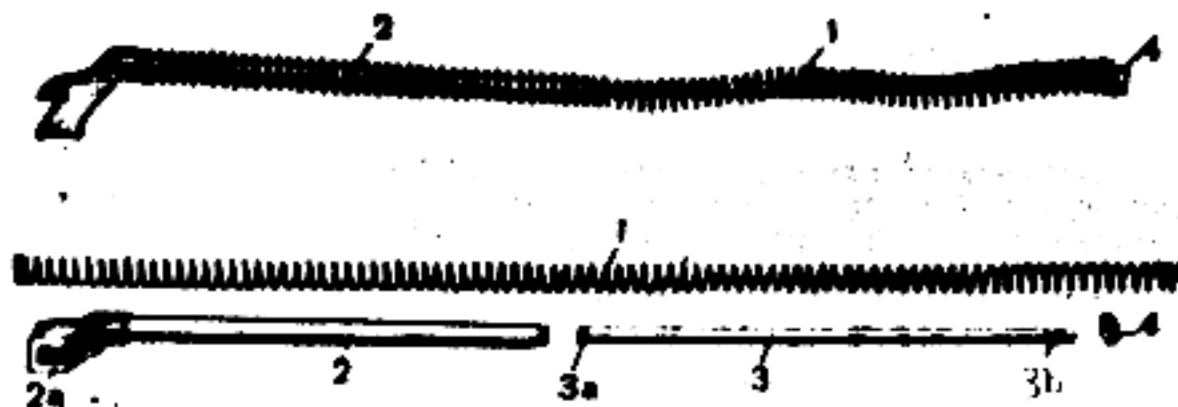

Figure 29. Return mechanism, assembled and disassembled (assy. 4).
The return mechanism (fig. 29) consists of the return spring (1), guide (2), guide rod (3) and washer (4).